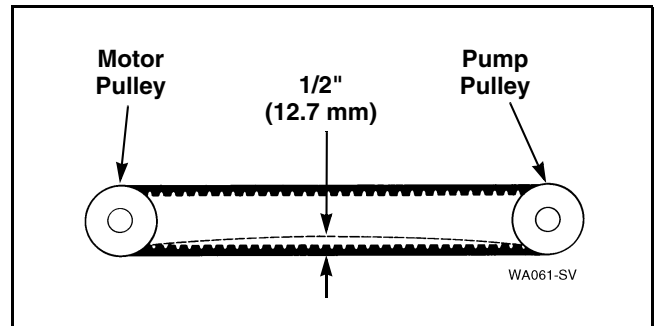

Figure 47
- Shift front of pump mounting bracket to the right or left to obtain proper belt tension. Proper tension is when belt can be deflected approximately 1/2 inch (12.7 mm) from its normal position by applying moderate pressure (1-1/2 pounds – .675 kg) to a point midway between pulleys. Refer to *Figure 47*.